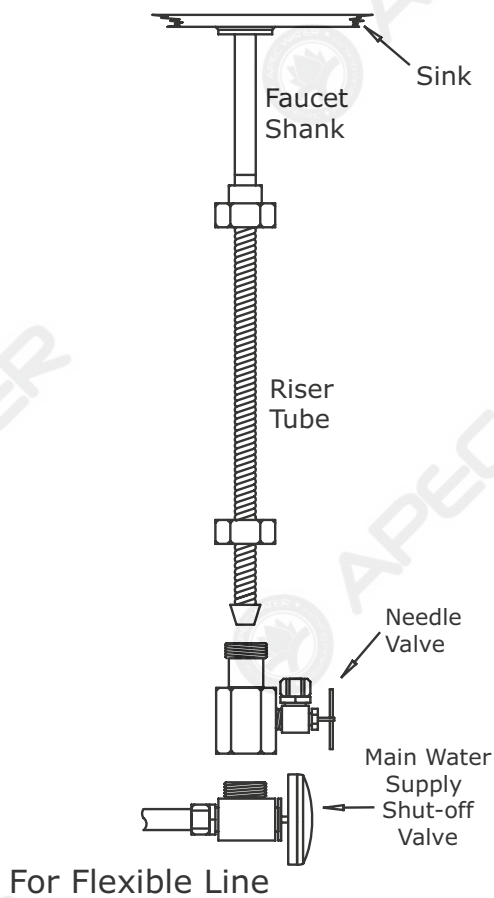
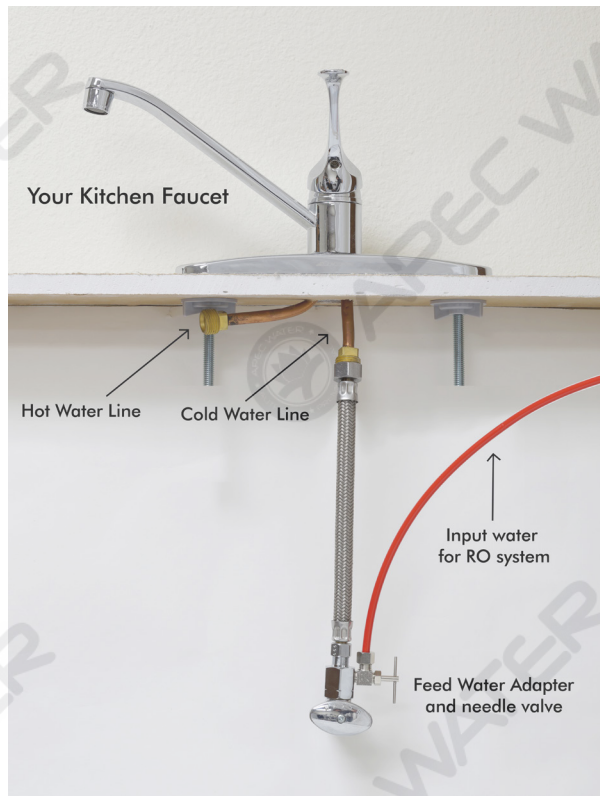

Fig. 5A
Fig. 5E
3. **Recommend Connection For Flex Line Riser:** See **Fig. 5A.** & **Fig. 5E** Loosen nut and separate cold water riser tube from shut off valve. Gently bend riser tube so that the Feed Water Adapter (**Fig. 4**) fits onto the shut off valve. Connect the riser tube, feed water adapter, and shut off valve together and **tighten.**